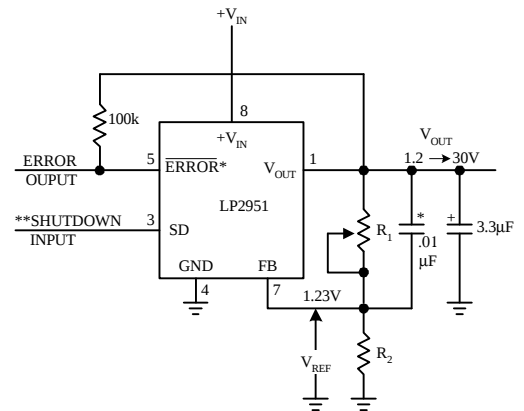

FIGURE 2. Adjustable Regulator
The LP2951 may be pin-strapped for the nominal fixed output voltage using its internal voltage divider by tying the output and sense pins together, and also tying the feedback and V_{TAP} pins together. Alternatively, it may be programmed for any output voltage between its 1.235V reference and its 30V maximum rating. As seen in Figure 2, an external pair of resistors is required.
*When V_{IN} 1.3V the error flag pin becomes a high impedance, and the error flag voltage rises to its pull-up voltage. Using V_{out} as the pull-up voltage (see Figure 2), rather than an external 5V source, will keep the error flag voltage under 1.2V (typ.) in this condition. The user may wish to drive down the error flag voltage using equal value resistors (10 k suggested), to ensure a low-level logic signal during any fault condition, while still allowing a valid high logic level during normal operation.